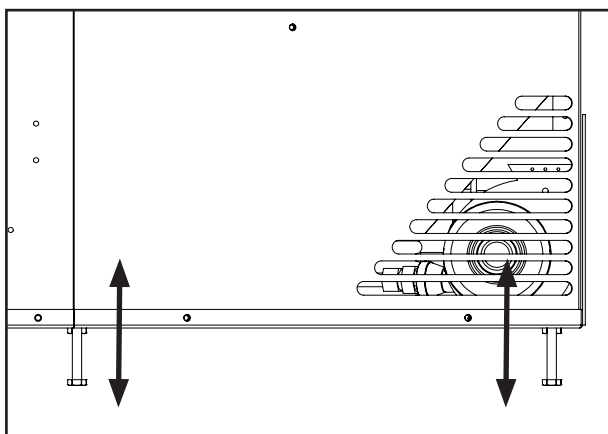

Figure 34: Levelling Legs Position.
15. Adjust the levelling legs to ensure the unit is level and high enough if a base shelf and/or riser is to be installed. There are four levelling legs on the bottom of the unit (shown in Figure 34).
The pressure taps are located on the valve shown in Figure 34.